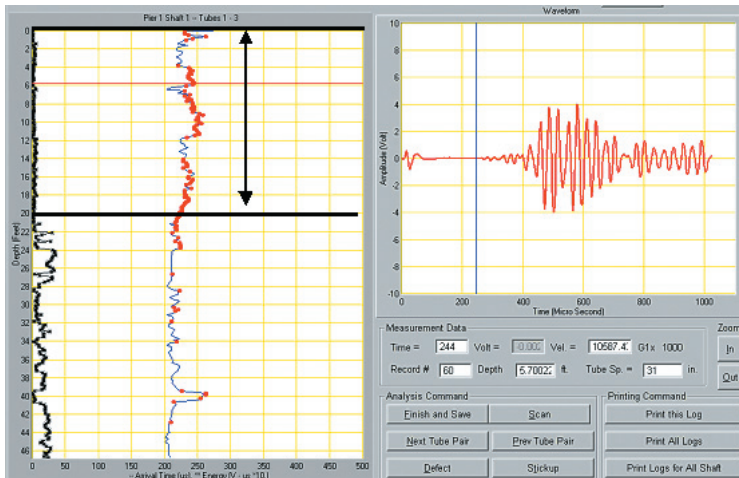

Figure 4. CSL data with debonding to a depth of 20ft
**Debonding conditions** between tubes and concrete can sometimes occur in a shaft. Tube debonding conditions can be due to various causes. The most common cause of tube debonding is initial tube expansion during the curing process due to heat from concrete hydration followed by contraction of the tube as the concrete cools. Tube debonding conditions are more common in PVC tubes than steel tubes because plastic is much more thermally expansive than steel or concrete. Figure 4 shows an example of CSL data in a shaft with debonding down to a depth of 20 ft. Debonding may be identified by low energy and erratic variation in pulse arrival times over short distances.